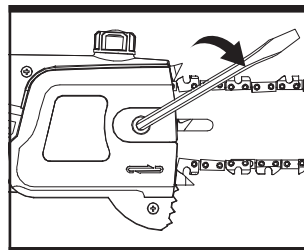

Fig. 5
f). Fit the side cover and cover insert back, tighten the screw using the Allen key. (See Fig.5)